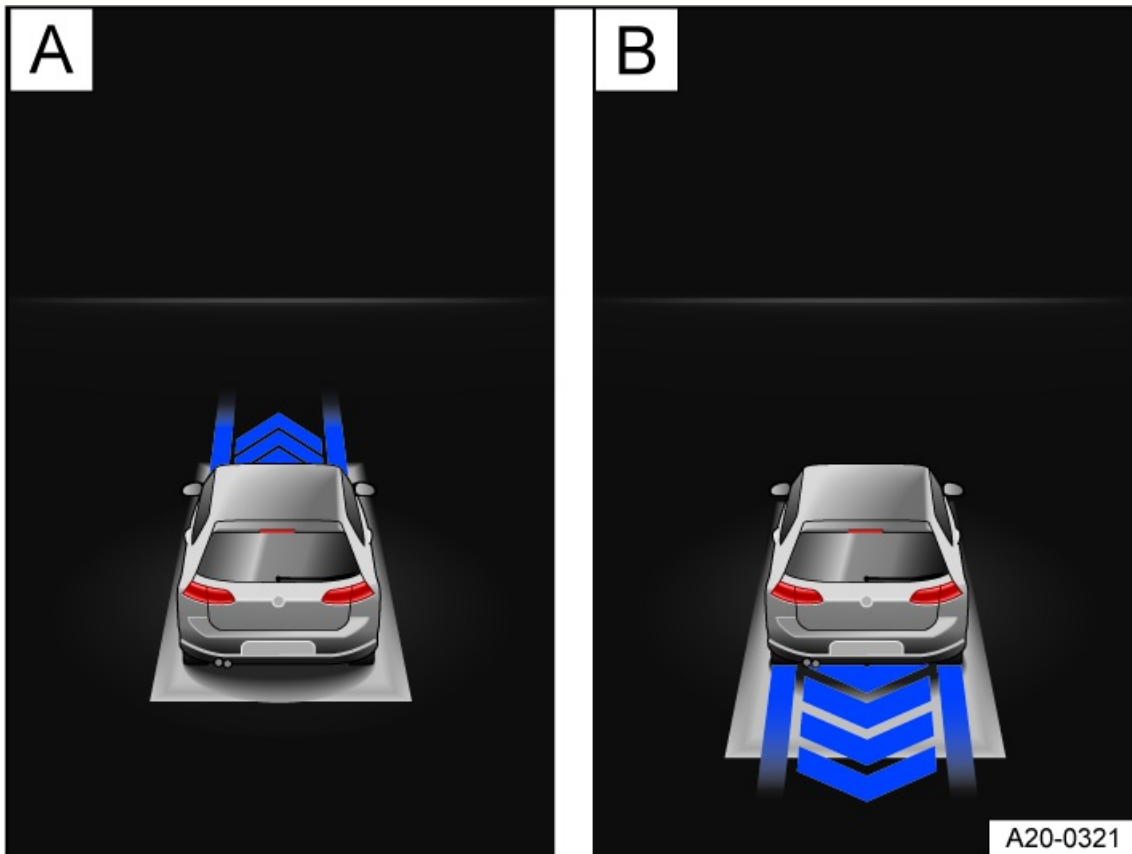

Fig. 118 In the digital instrument cluster display: prompt for changing driving direction (general example).
8. If a change of driving direction is shown in the digital instrument cluster, change gear accordingly *fig. 118*. Follow the messages.